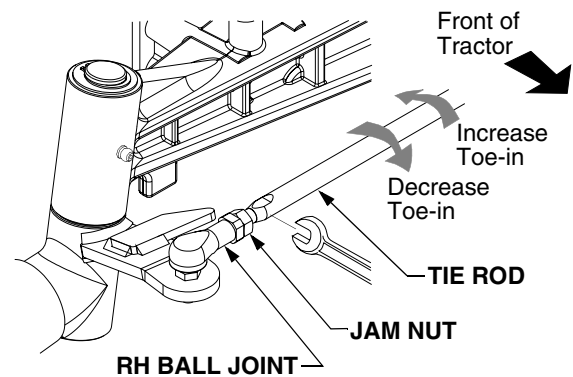

Figure 31
- Loosen the jam nuts at both the LH and RH ball joints. See Figure 31.
Rearward to shorten the tie rod and increase the toe-in. See Figure 31.
Forward to lengthen the tie rod and decrease the toe-in. See Figure 31.